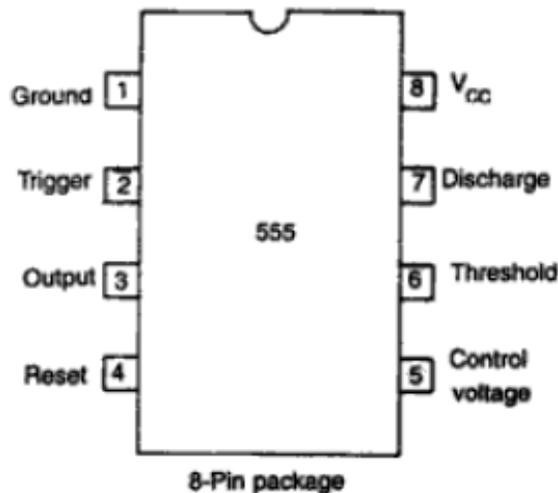
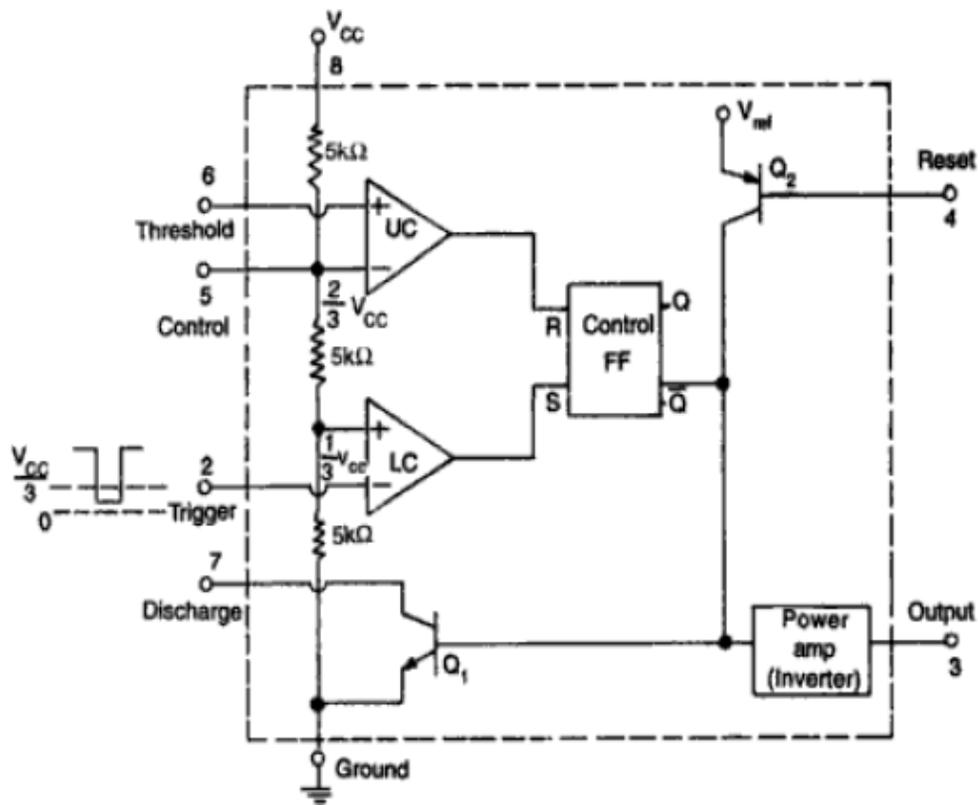

Figure 1: Pin Diagram
Figure 2: Functional diagram of 555 timers
- Fig. 1 gives the pin diagram and Fig. 2 gives the functional diagram for 555 IC timers.
- Referring to Fig.2, three 5 kΩ internal resistors act as voltage divider, providing bias voltage of $(2/3) V_{CC}$ to the upper comparator (UC) and $(1/3) V_{CC}$ to the lower comparator (LC), where V_{CC} is the supply voltage.